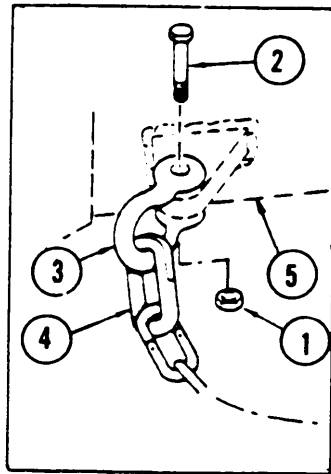

Figure 2-16. Trailer Safety Chain Assembly (ARMY)
- e. Installation. (Figure 2-16)
- (1) Install chain and latch shackle (3) in chain assembly (4).
- (2) Position chain and latch shackle and chain assembly to trailer frame (5).
- (3) Install screw (2) and nut (1) through pad on trailer frame (5) and chain and latch shackle (3) to secure chain assembly (4). Place hook over bar on trailer frame (5).